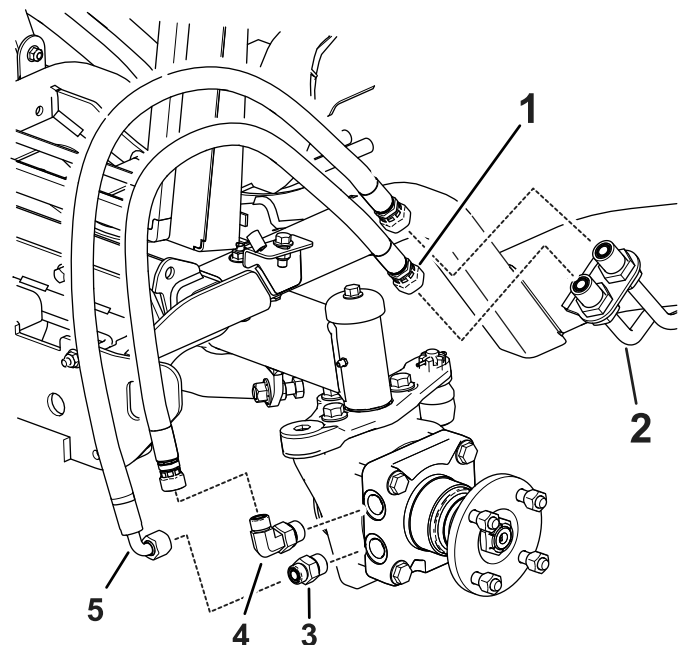

Figure 4
- Install the hose with straight fittings onto the 90° elbow fitting (Figure 4).
- Install the hose with the 90° elbow to the straight fitting (Figure 4).
- Remove one cap at a time and install the correct hose to the hydraulic line as shown in Figure 4.
- Remove the remaining cap and install the hose to the hydraulic line (Figure 4).